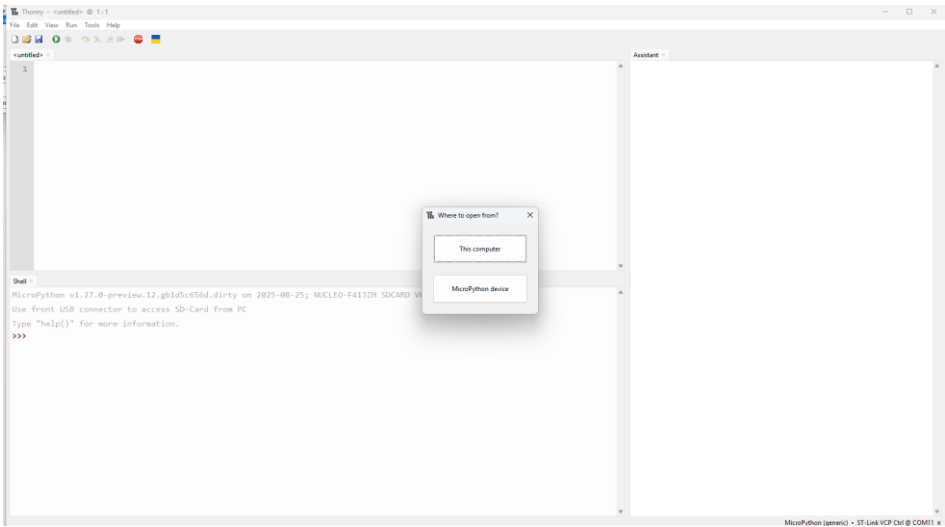

Figure 9: Clicking Open
- The Thonny IDE should then appear as shown in Figure 9.
- If the IDE does not look like Figure 9, check the USB connection.